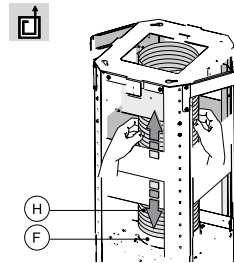
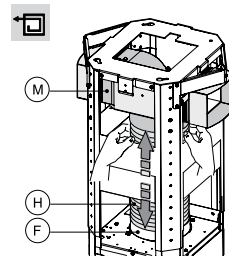
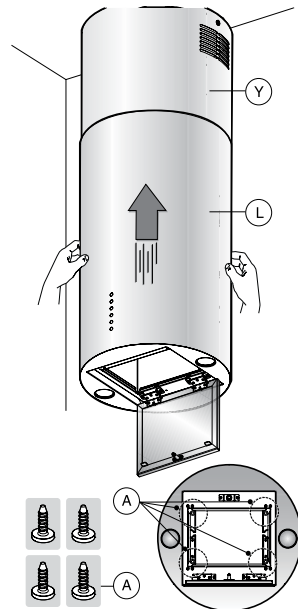

Fig. 12
Fig. 13
Fig. 15
- Assemble the ventilation duct(H), as shown in the diagrams below dependant on whether you are extracting air to the outside (Fig 12) or re-circulating (Fig 13), in which case you will need to purchase an optional accessory T-piece(M) from CDA. Ensure that the duct adapter (F) is securely connected to the duct pipe or T-piece in order to minimise noise.
- Separate the two decorative sections and mount the upper section(Y) into position, then fix it to the frame with the 2 supplied screws(X).
- Carefully slide the lower section (L) over the upper section (Y) and secure into position using the 4 machine screws (A) as shown in Fig 15.